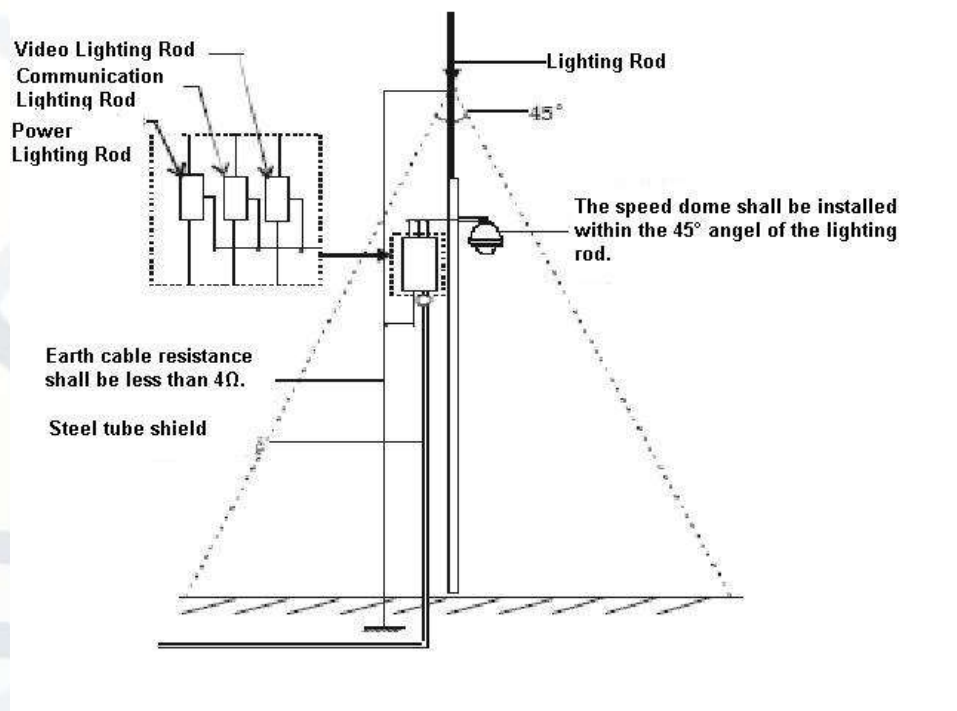

Figure 7-1
- System shall adopt equal-potential wiring. The earth device shall meet anti-jamming and at the same time conforms to your local electrical safety code. The earth device shall not short circuit to N (neutral) line of high voltage power grid or mixed with other wires. When connect the system to the earth alone, the earth resistance shall not be more than  $4\ \Omega$  and earth cable cross-sectional area shall below  $25\ \text{mm}^2$ . (See Figure 7-1).